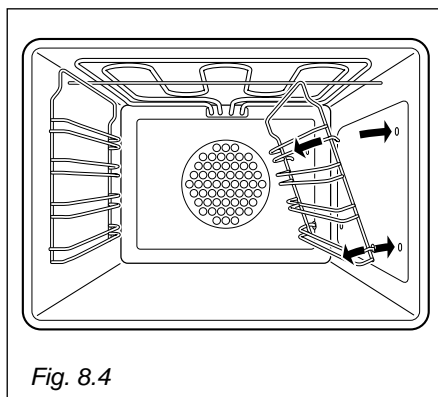

Fig. 8.4
- Slide off the wire racks to the oven wall as in Fig. 8.4. The grill is secured to the rear wall of the oven on a hinge system that allows it to be lowered to allow proper access when cleaning the oven ceiling (fig. 8.5).
- Slide in the wire racks on the oven wall as in Fig. 8.4.